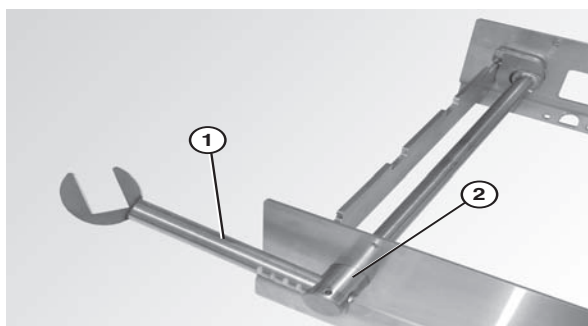

Figure 13
- Attach the nose bar idler shaft hands (**Figure 13, item 1**) to the tip up shaft (**Figure 13, item 2**).